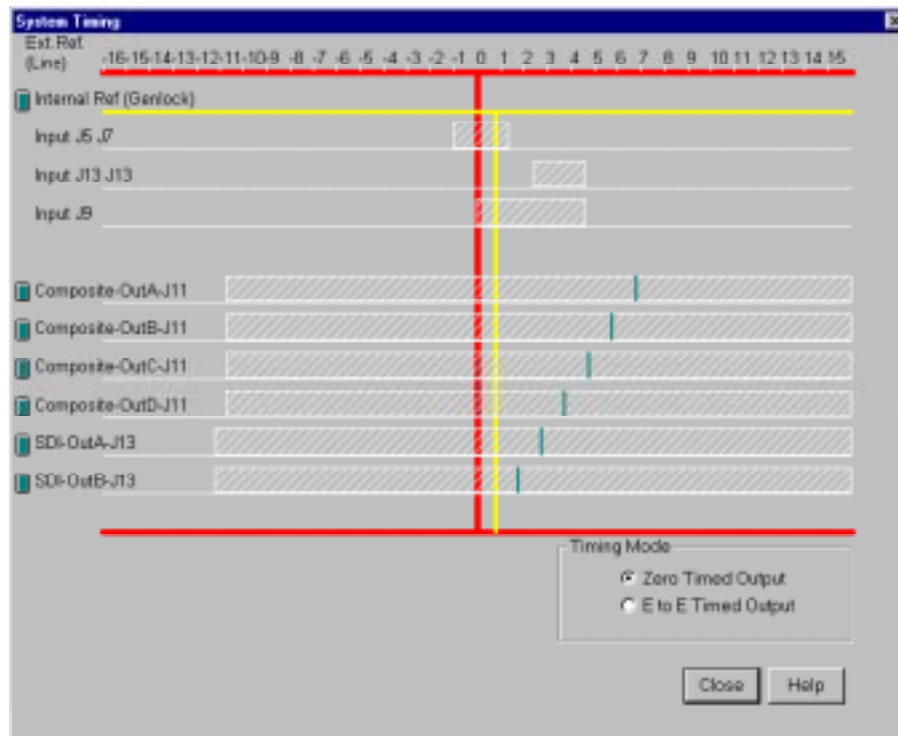

Figure 10. System Timing dialog box, zero-timed
1. Choose **Options | System Timing** or click the System Timing button on the toolbar. The System Timing dialog box appears (see Figure 10 which shows an example of how the dialog box looks when the outputs are zero-timed by default).